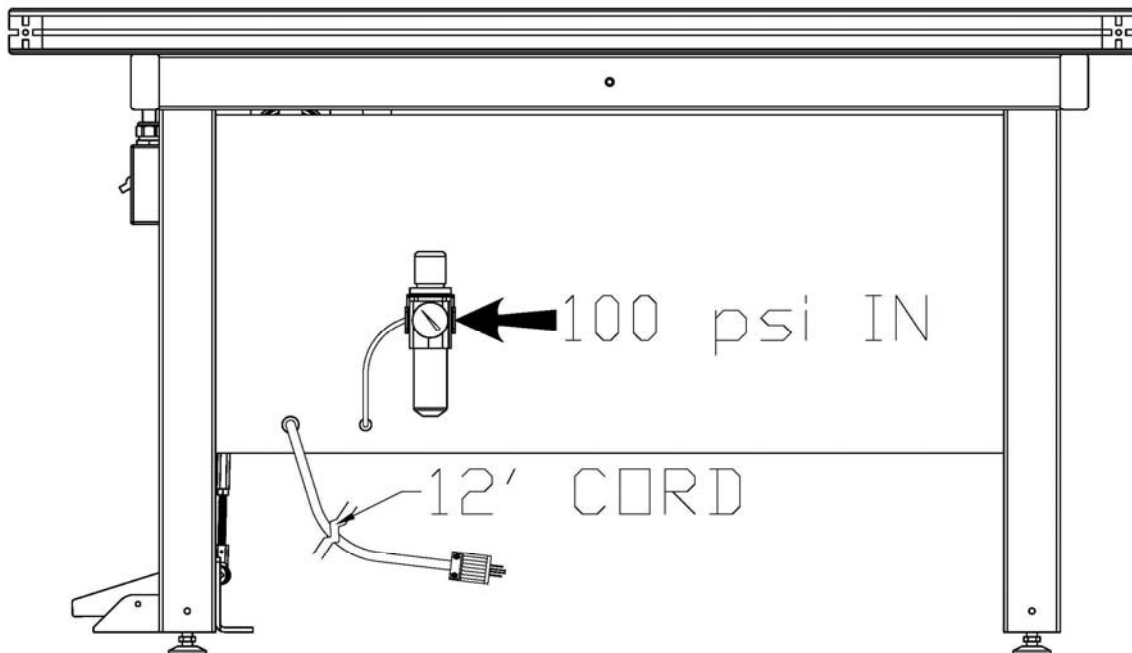

Figure 1a
1. Supply 100-psi compressed air to the IN port on the filter/regulator. The IN port on the filter/regulator is a ½" NPT hole. See **Figure 1a**.